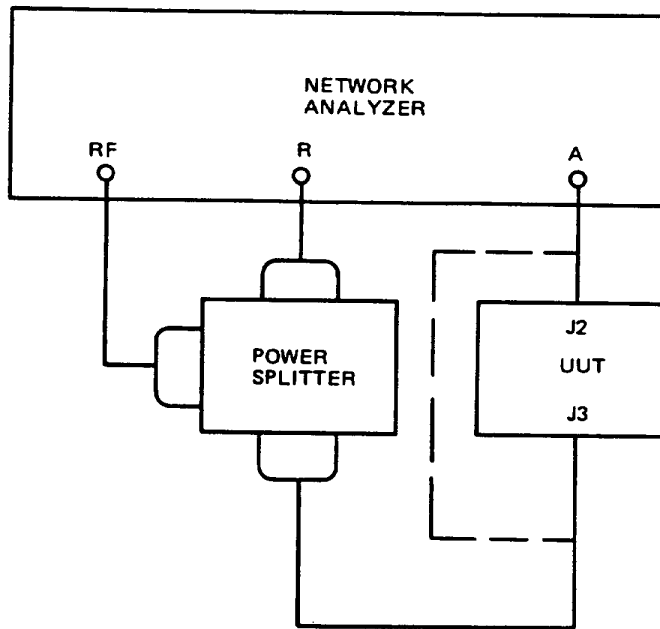

FIGURE 4-3.
4.5. ALIGNMENT/ADJUSTMENT (REFER TO FIGURE 4-3)
The receiver-transmitter circuit cards must be mounted on the test set as shown in Figure 4-3 for alignment and adjustment.